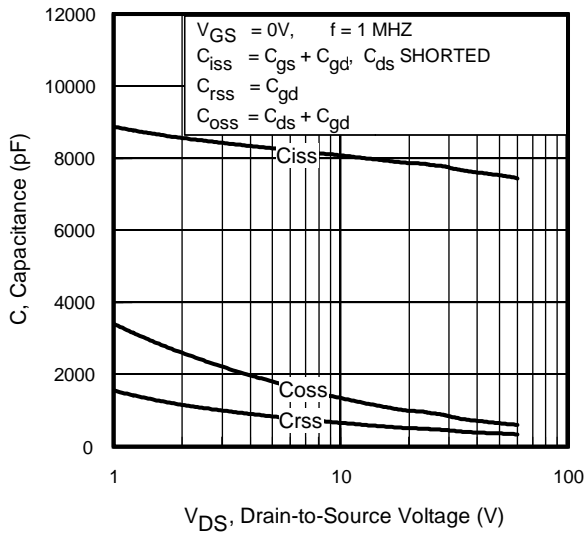

Fig 5. Typical Capacitance vs. Drain-to-Source Voltage
| C _{oss eff. (TR)} | Effective Output Capacitance (Time Related) ^⑥ | — | 1010 | — | | V _{GS} = 0V, V _{DS} = 0V to 60V ^⑥ , See Fig. 5 |